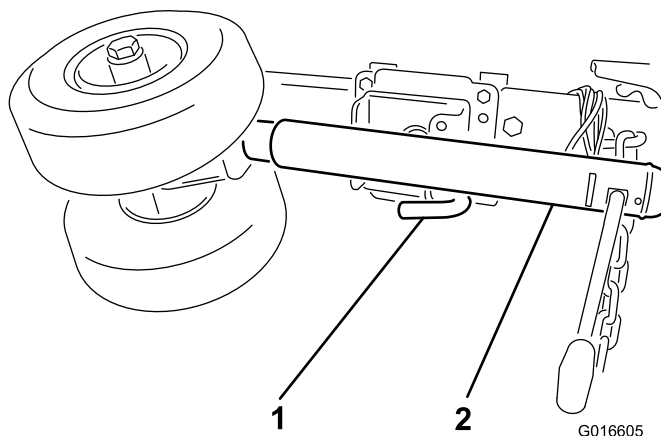

Figure 6
8. Raise jack stand so caster wheels are free of the ground, pull the release pin and rotate wheels rearward and lock in the horizontal position (Figure 6).